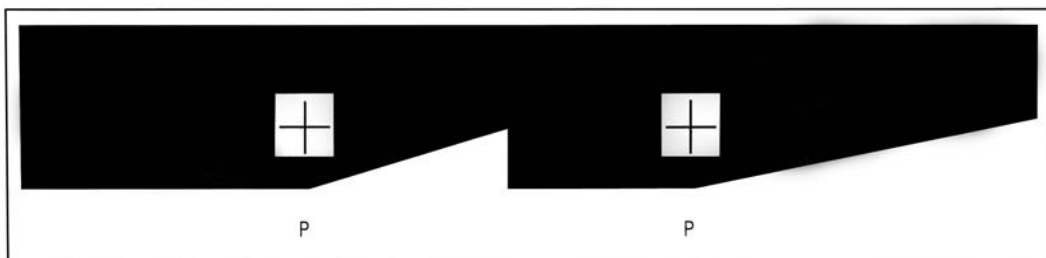

Fig.33 Light Distribution Curve
Just like Fig.33 shows, Light Distribution Curve is applicable to right-driving system. If the adjustment of headlight needs checking and adjusting, follow the next steps:
- Datum point P-P (Fig.33) lies 5cm lower than the “+” marks.